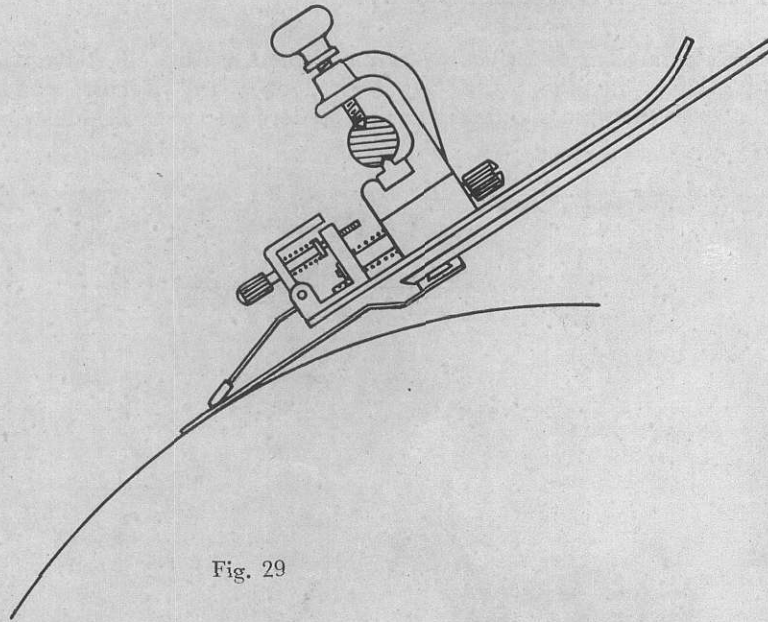

Fig. 29
- a) Operating screw 1 (fig. 29) it is possible to move the contact point of the blade back and forward in accordance with the position of the guides.
- b) Operating screw 2 (fig. 29) it is possible to adjust the pressure of the contact blade on the steel bands underneath the feedboard.